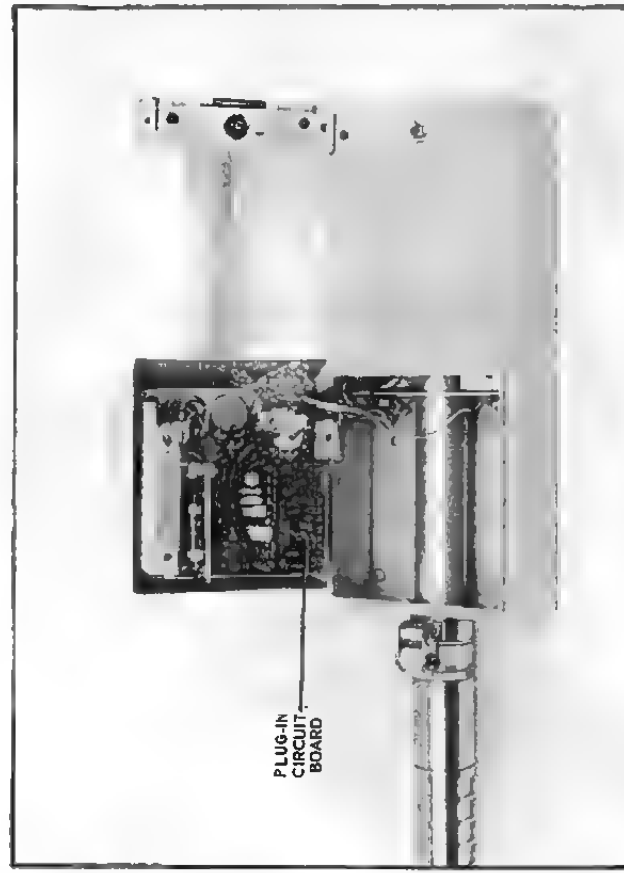

FIGURE 6 - SEPARATING CASE
5. Gently separate the two sections of the instrument case, being careful not to place any strain on the electrical cables which connect the two sections (see Figure 6).
6. All transistors except the power supply transistor (Q5) are located on a plug-in printed circuit board next to the MR/HR control (see Figure 6). This circuit board is keyed to its receptacle strip to prevent reversal in reassembly. The schematic designations of the transistors are marked on the foil side of the circuit board for convenience. Use exacting soldering techniques when removing and replacing the transistors.